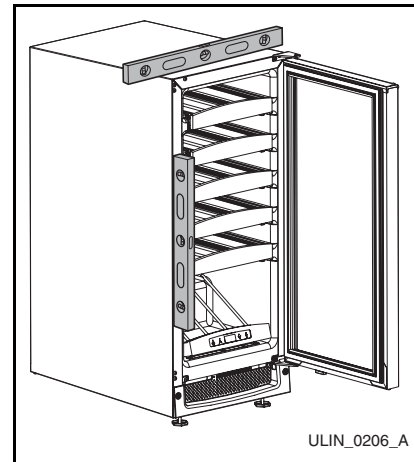

Figure 12
1. Use a level to check the levelness of the unit from front to back and from side to side. Level should be placed along top edge and side edge as shown (**Figure 12**).